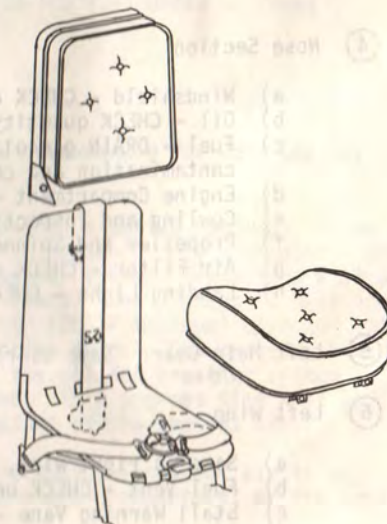

FIGURE 3-2 SEAT BELTS/ACRO HARNESS
- Seat Belts - CHECK CONDITION, SECURE rear belt and harness if not in use (see Figure 3-2).
- 1) Seat Belts/Shoulder Harness - FASTENED and adjusted (see Figure 3-2).